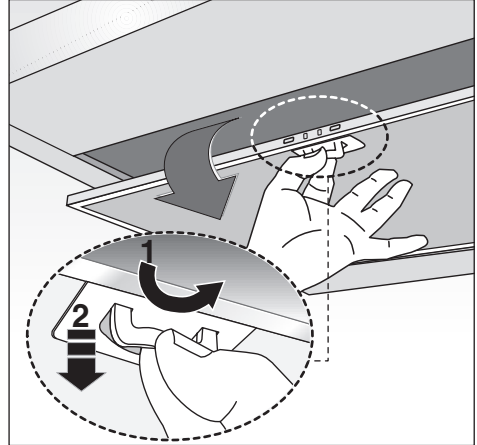

Fig.15
If a connection tube composed of two parts is used, the upper part must be placed outside the lower part. Do not connect the cooker hood exhaust to the same conductor used to circulate hot air or for evacuating fumes from other appliances generated by other than an electrical source. Before proceeding with the assembly operations, remove the anti-grease filter(s) (Fig.15) so that the unit is easier to handle.
- If the cooker hood is supplied with a lower chimney piece that must be fixed to the hood body with screws, remove the anti-grease filters from the hood by acting on the relevant handles (Fig.15).